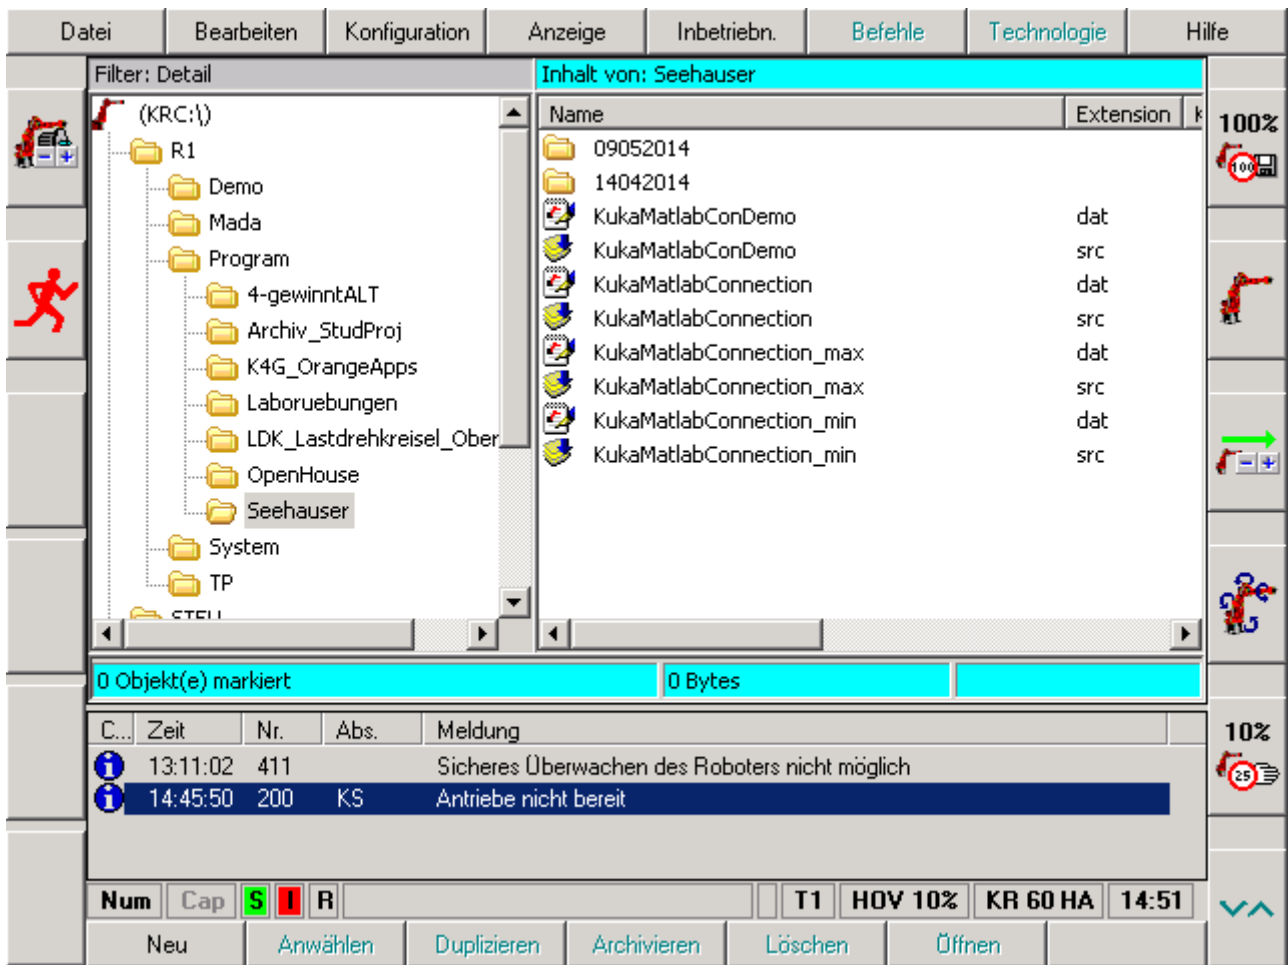

Figure 5: copy all necessary files to the KRC
3. Copy the `KukaMatlabConnection_min.src` and `KukaMatlabConnection_min.dat` files into a subdirectory in `C:\KRC\Roboter\KRC\R1\Programm` (see figure 5) or somewhere else where you can start this programm